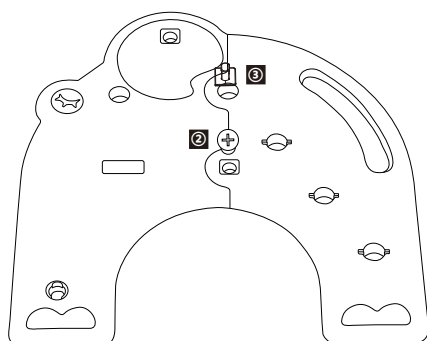

Figure 4 / Figura 4
3. Spline the front and rear legs of the main side plate and tighten the cross nuts and square screws (as shown in Figure 4).